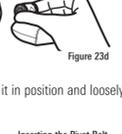

Figure 24
3. Put the pivot bolt through the assembly to hold it in position and loosely install the nut, but do NOT tighten the nut at this time (Figure 24). Insert the pivot arm assembly into the mounting bracket (Figure 25). Do NOT snap the assembly closed, as you will need to access the mounting bracket in the next step.